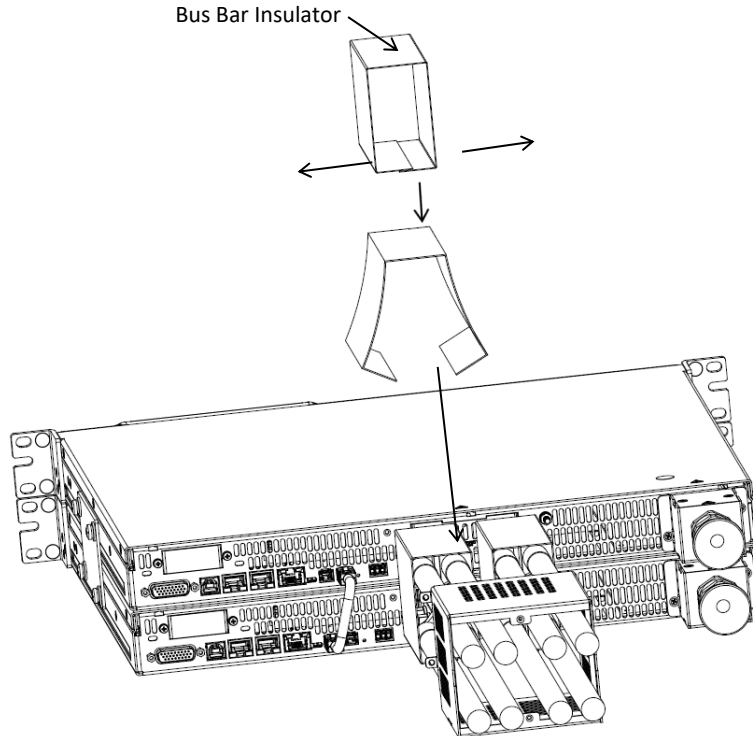

Figure 6: Two 10V Units Bus Bar Insulator Assembly
- Assemble bus bar insulator prior to output cover assembly. The insulator is flexible and could be opened in its bottom side. Open the insulator and cover the bus bar by sliding it over the bus bar, from top to bottom, as illustrated in Figure 6. Repeat for the second bus bar.